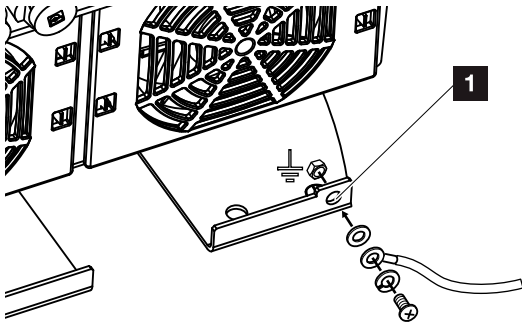

Fig. 23: Country-specific PE connection, outside
10. In countries in which a second PE connection is prescribed, connect this at the marked place on the housing (outside). **Fig. 23, It. 1**